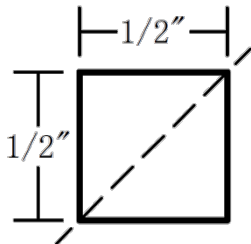

Figure 2: Cross Sectional View of Stock for 90° Leg
2. The legs of the square body have 90° v-grooves. Figure 2 shows our recommendation of how to prepare your infill material for this leg.